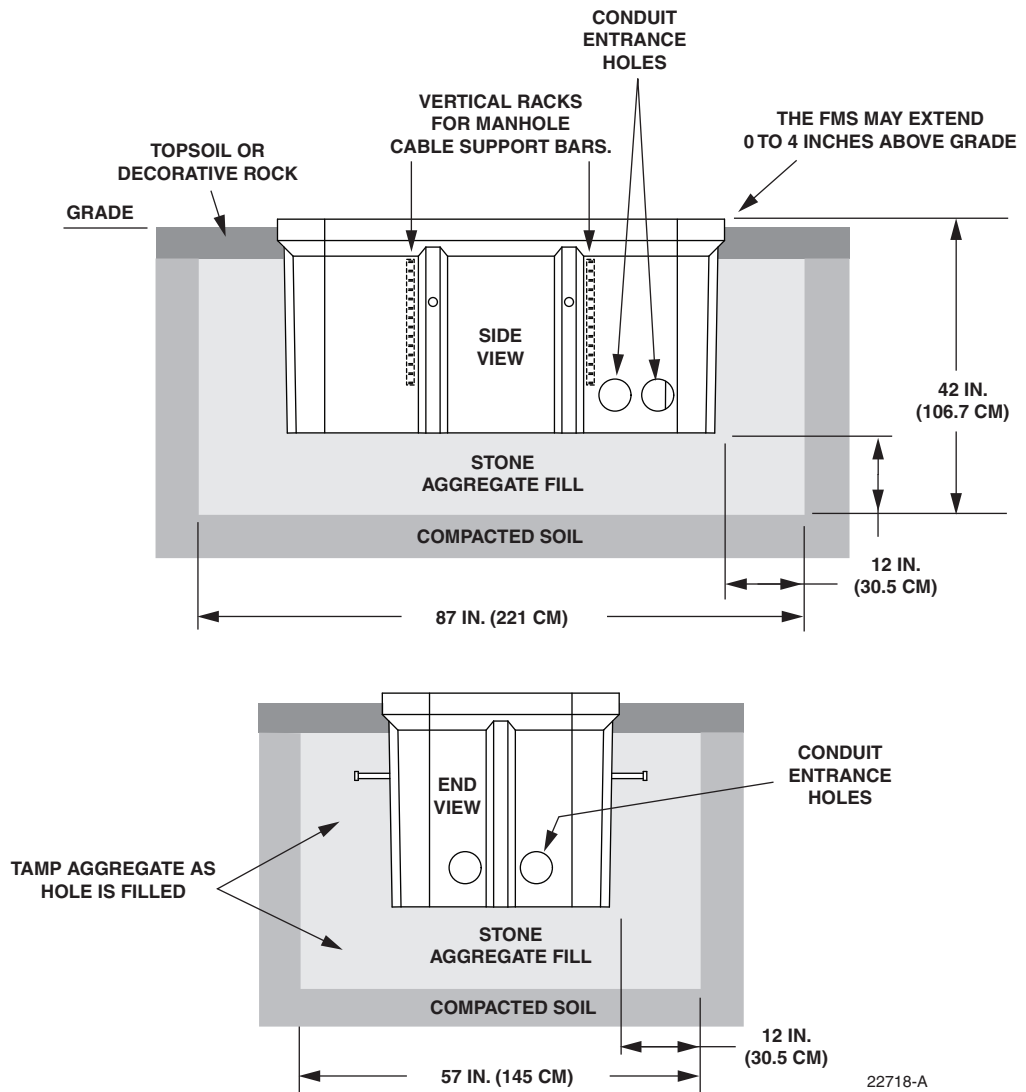

Figure 5. Excavation Recommendations for FMS-ACE100-KIT-A
The excavation dimensions for the FMS are shown in Figure 5.
Select the conduit entrance holes (see Figure 5) for the OSP feeder and distribution cables. If necessary, additional conduit entrance holes may be cut using a power drill and hole saw. Place and route the conduit into the entrance hole(s).
2. Complete the back-fill with crushed rock or topsoil depending on the landscaping requirements. The top surface of the mounting sleeve may be located from 0 to 4 inches (10.2 cm) above the surrounding grade (see Figure 5).